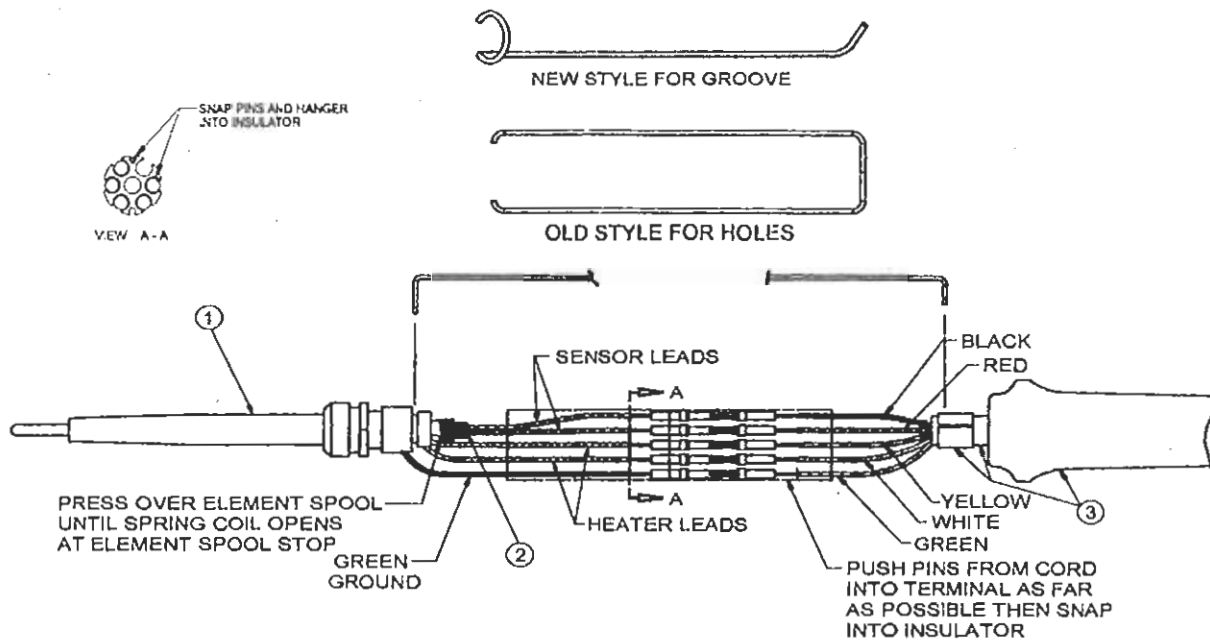

FIGURE 1
- a. If replacing cord assembly, two (2) hangers are provided. Match hanger to heater being used. (**See Figure 1**). **FOR OLD STYLE:** Slide hanger into cord clamp hook, flatten hook, then attach hanger to hanger mounting holes in heater. **FOR NEW STYLE:** Slide hanger into groove on heater body, then flatten cord clamp hook over end of hanger.
6. Connect terminals to pins (**See Figure 1**).